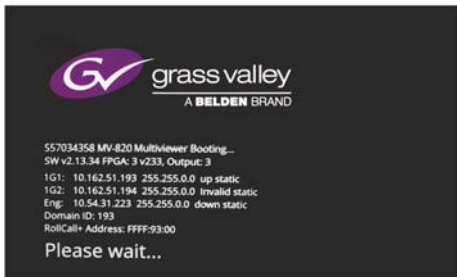

Figure 6 MV-820 Booting Splash Screen
2. Unit starts and boots up. Booting lasts 2 to 3 minutes. After approx. 1 minute, a splash screen is shown on each Display Output, see **Figure 6**.
A MV-820 **System Reset** starts. While MV-820 reboots, a splash screen shows unit IP address etc., see **Figure 6**.